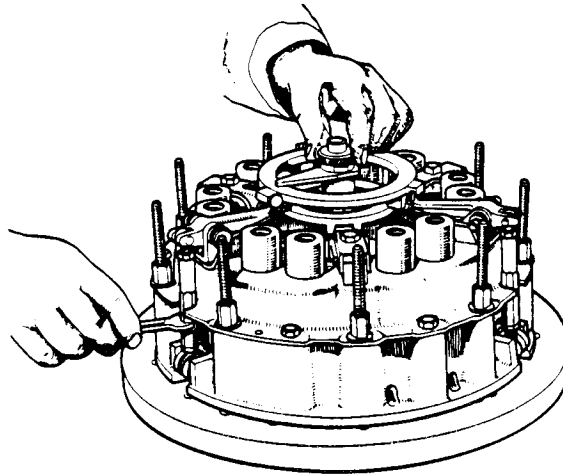

Figure 28. SETTING PTO RELEASE LEVER HEIGHT
11. Remove actuator, screw centre pillar into adaptor and fit spacer, Code 16X (some early spacers were marked "Code 16" only), on pillar—recess in spacer towards adaptor. Fit the long setting finger on centre pillar and set the three toggles so that when setting finger is rotated, whilst being held firmly and squarely against spacer, it just touches the lever plate all the way round. (Fig. 28.) When the lever setting is correct, lock toggles by firmly tightening all six locknuts.